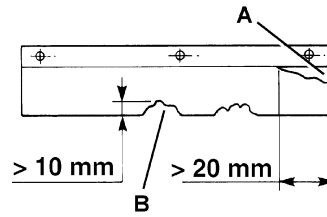

Figure 12
3. Unscrew the knobs (23 and 21) and remove both left (20) and right doors (22).
4. Check the side skirts (13 and 14) for integrity. Replace the skirts when they have cuts (A, Fig. 12) larger than 20 mm or cracks (B) larger than 10 mm (for skirt replacement, refer to the Service Manual).
8. Check the front (15) and rear skirts (16) for integrity. Replace the skirts when they have cuts (A, Fig. 12) larger than 20 mm or cracks (B) larger than 10 mm (for skirt replacement, refer to the Service Manual).